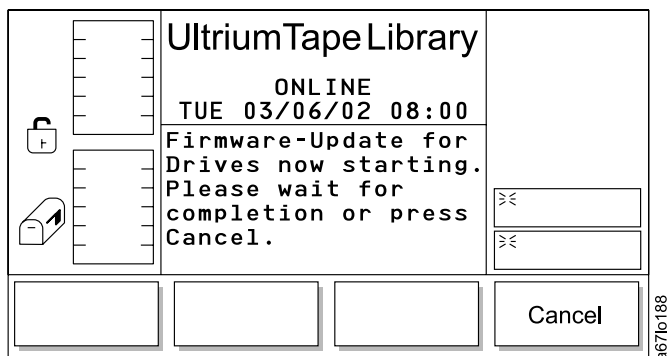

Figure 74. Firmware Update Dialog
6. When your drive selection is complete, select **OK**. The Firmware Update Dialog displays (see Figure 74).